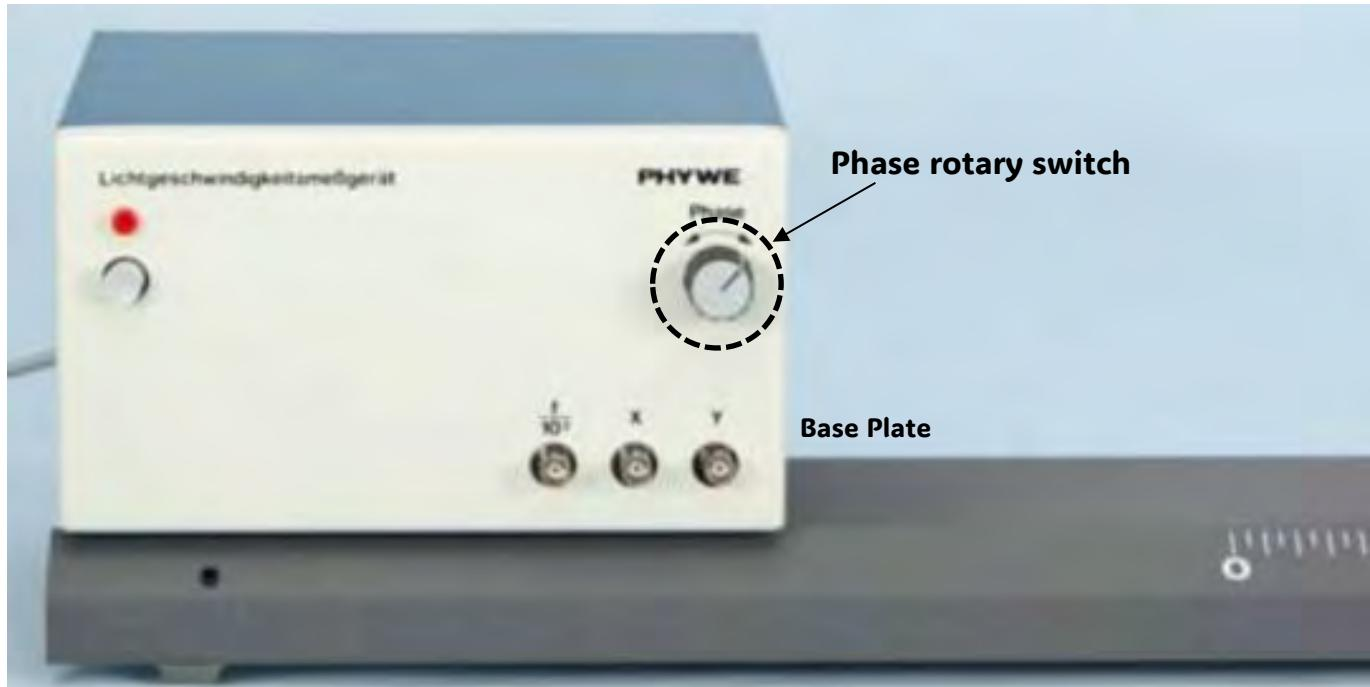
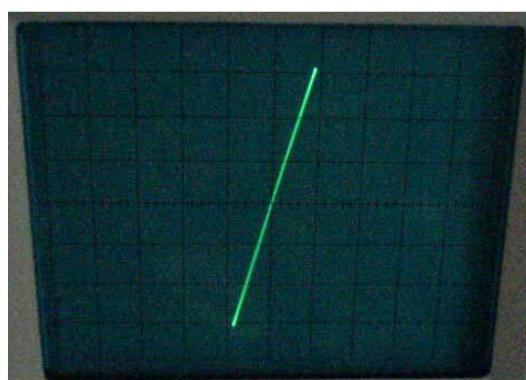

Fig. 1
Fig. 14
- The control unit is shown in *fig. 1* and already discussed above. The control unit is already placed in the proper position (left side of the base plate next to the scaling) as shown in the figure.
- Turn the "Phase" rotary switch (Fig. 1) of the operating unit to the right until you see a straight line (Fig. 14). Note this position of the mirror as x_1 .